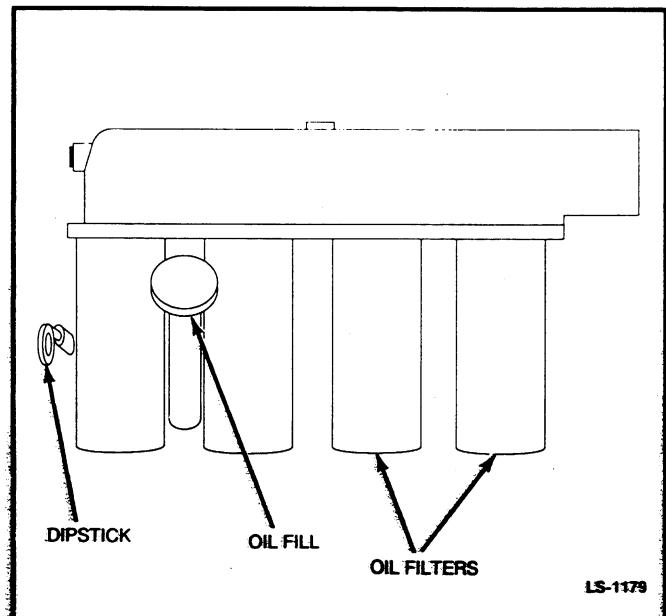

FIGURE 6-3. OIL DIPSTICK LOCATION
2. Fill crankcase to "L" (low) mark on dipstick (see Figure 6-3) and refer to *Maintenance* section in Operator's manual for oil recommendations.